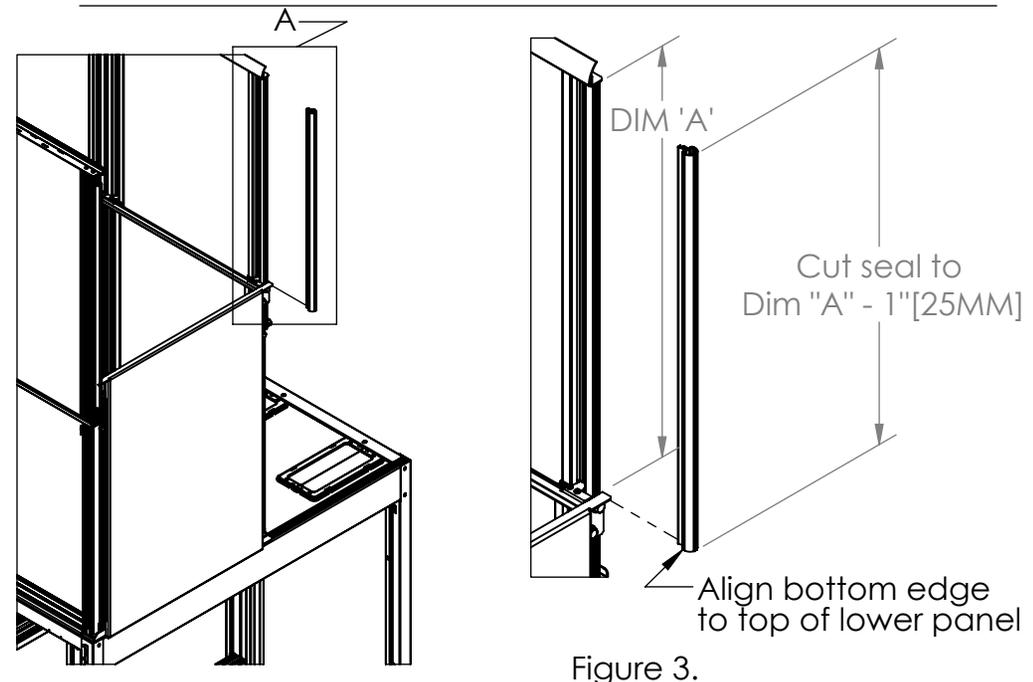

Figure 3.
2. Measure Dimension A from top of lower panel to the lower edge of the upper cabinet panel flange as shown in Figure 3. Cut Qty(2) bulb seals 1in [25mm] shorter than Dimension A. Install Seal as shown.